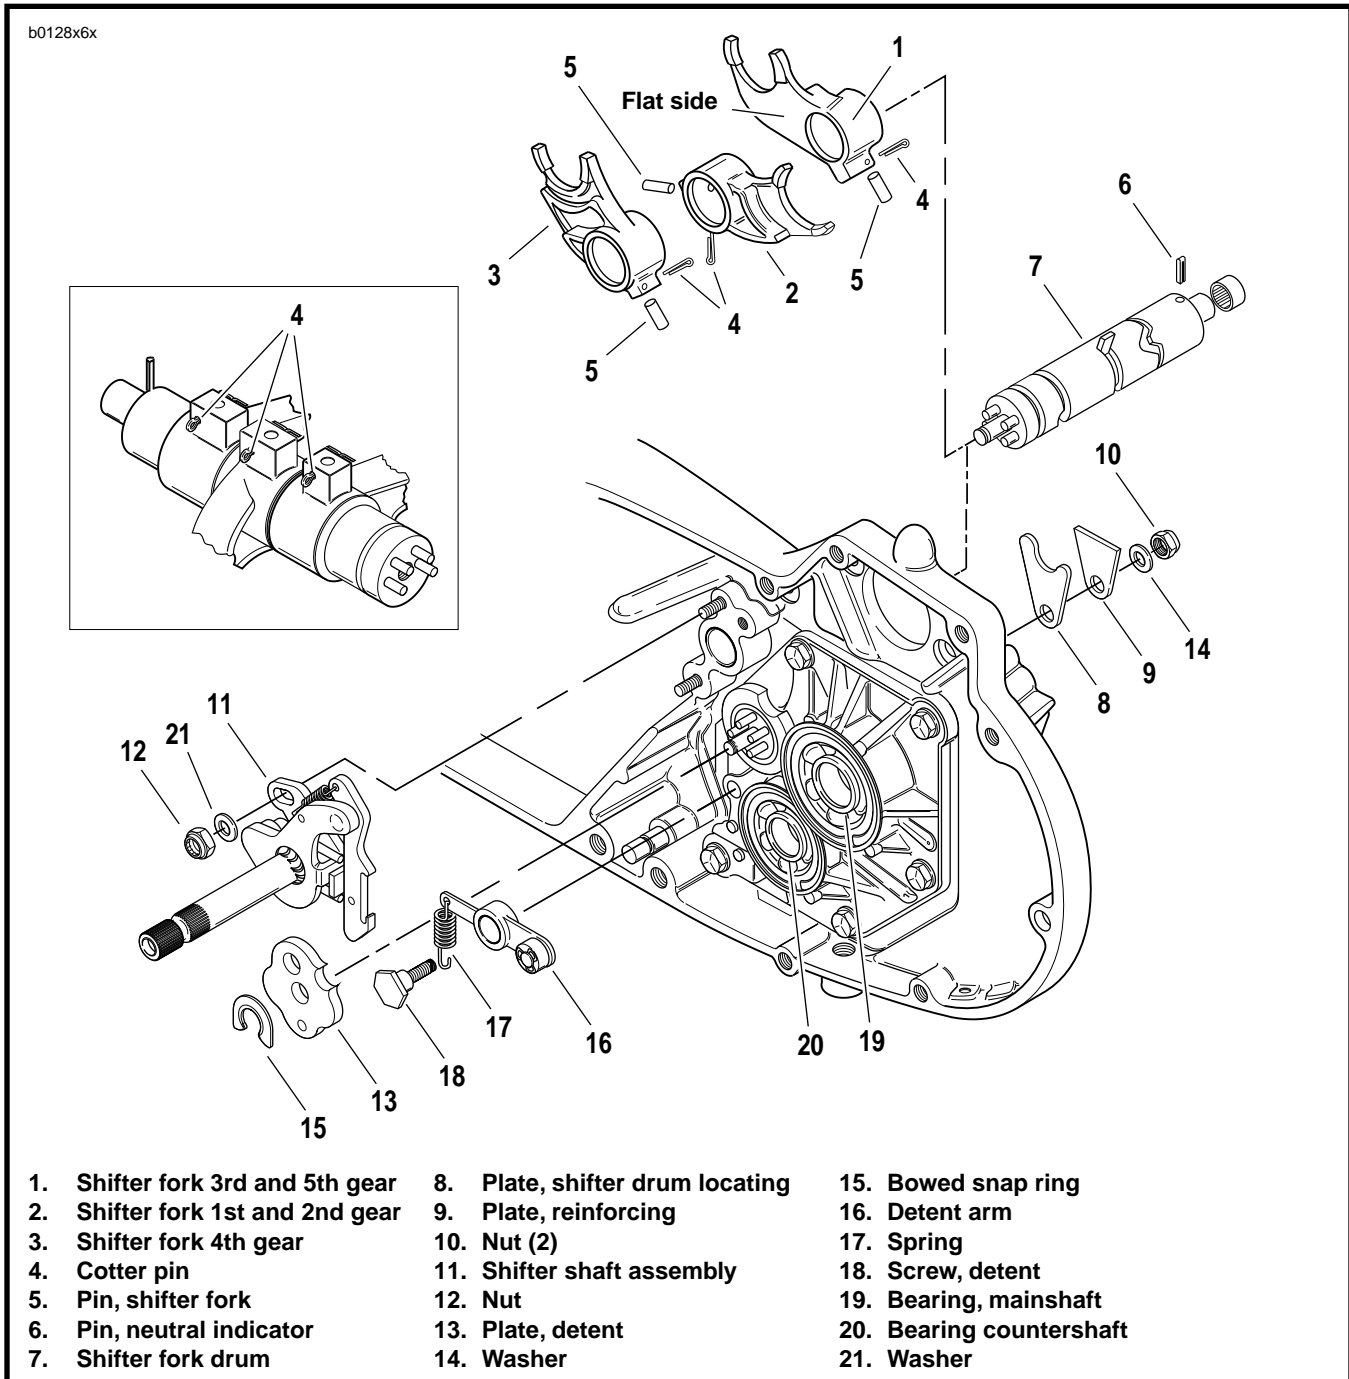
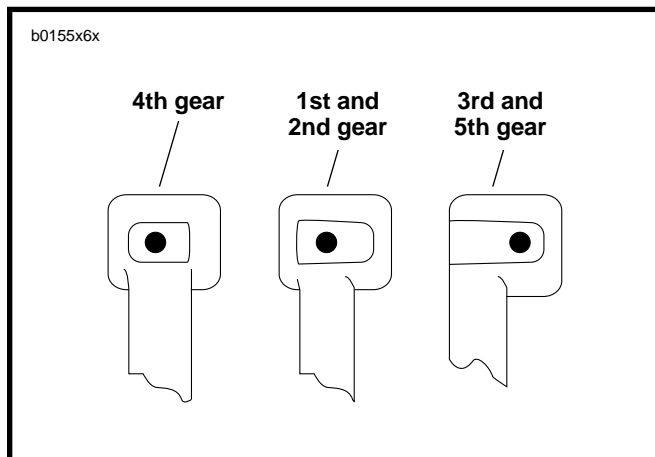

Figure 6-17. Shifter Mechanism
Figure 6-18. Shifter Fork Identification
2. See Figure 6-17. Remove nut (10), washer (14), screw (18), drum lock plates (8, 9), detent arm (16), and spring (17).
3. Remove and discard the three fork cotter pins (4).
1. See Figure 6-17. Clean all parts except bearings (19, 20) with solvent.
3. Inspect shifter drum (7) for cracks or wear. Replace if necessary.
1. See Figure 6-18 for shifter fork identification. See Figure 6-17. Lubricate the shaft bore in fork (1) with SPORT-TRANS FLUID. Place 3rd and 5th gear shifter fork (1) in the fork groove of mainshaft 2nd gear. Be sure the flat side of fork is facing the access cover.
2. Lubricate the shaft bore in fork (2) with SPORT-TRANS FLUID. Place 1st and 2nd gear shifter fork (2) in the fork groove of countershaft 3rd gear. Be sure the flat side of fork is facing away from the access door.
3. Lubricate the shaft bore in fork (3) with SPORT-TRANS FLUID. Place 4th gear shifter fork (3) in the fork groove of mainshaft 1st gear. Be sure the flat side of fork is facing away from the access door.
4. See Figure 6-17. Position the shifter drum shaft so that the neutral indicator switch activator pin (6) is upward. The shaft is then in the neutral position. Insert the pin end of drum shaft (7) through the hubs of shifter forks (1, 2 and 3) and through the bearing in access cover.
The cotter pins must be inserted through the shifter forks as shown in the inset of Figure 6-17 to prevent possible damage to cotter pins (4).